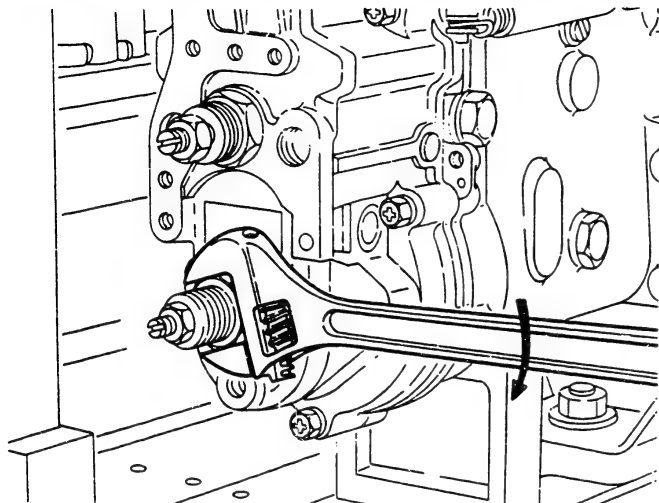

Fig. 141 Adjustment of the outer spring
- 1) Screw in the spring capsule (133) until the control rack is set to position R_b mm with the pump speed increased to N_a rpm, and then lock the nut (135). The outer idling spring is now set. (Fig. 141)